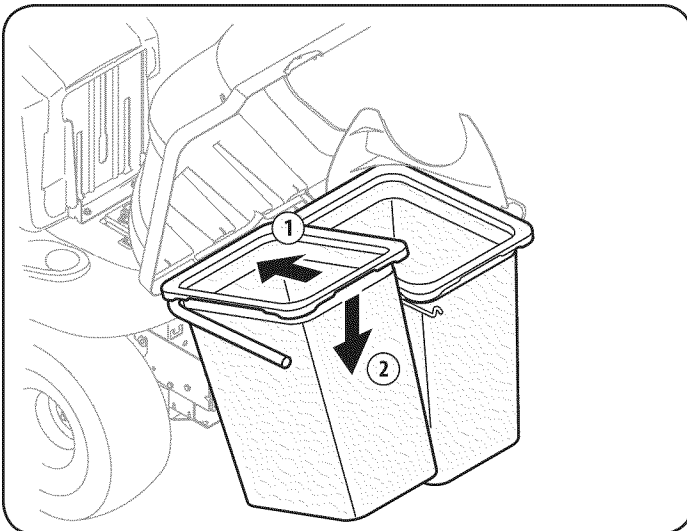

Figure 15
6. Install both grass bags onto the bag support assembly by inserting the front edge in first (1), as seen in Figure 15, and setting the back edge down (2) until it fits into the assembly.